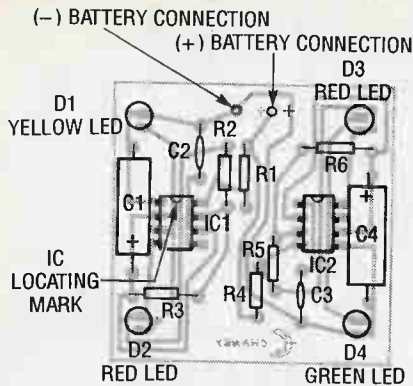

Figure 2. Follow the parts-placement diagram carefully when building your kit and you'll have little trouble.
1. Assemble the circuit following the parts-placement diagram in Figure 2 along with the schematic diagram and the Parts List. Be sure to use the right solder: 60/40 rosin-core only!
5. The LEDs must also be mounted as shown in Figure 2, as they, too, as explained above, are polarized components.